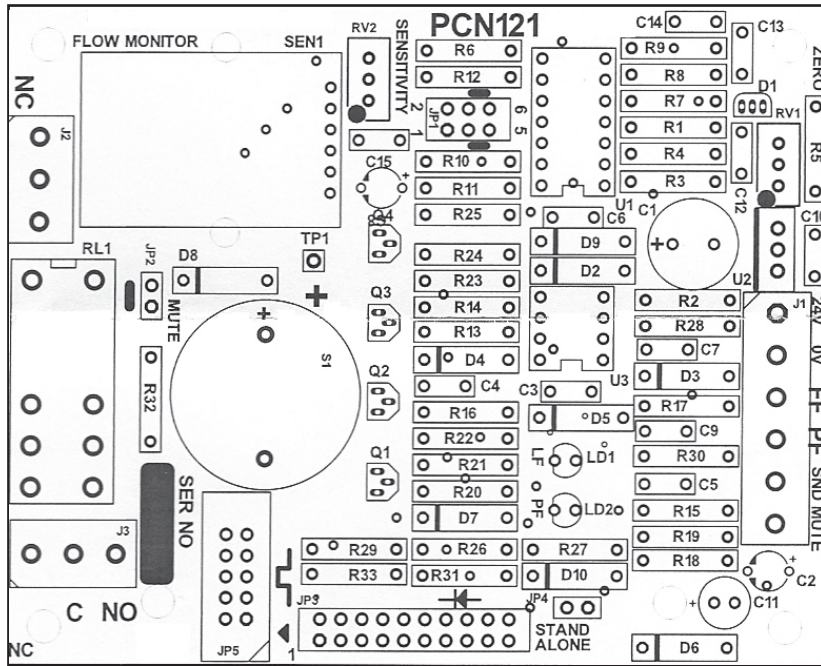

Fig 1C
- 13 Flow monitor - see Fig. 1C